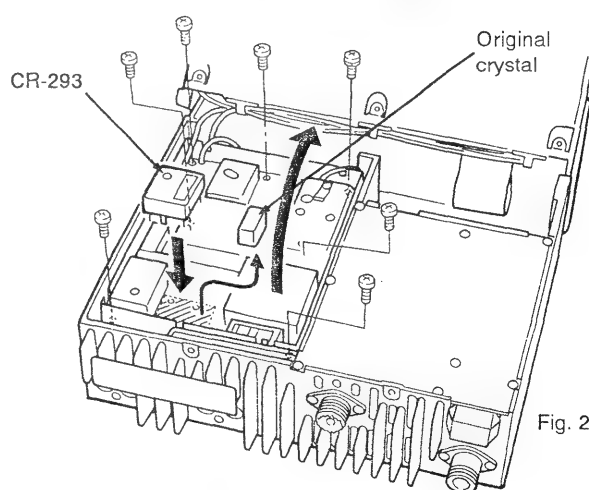
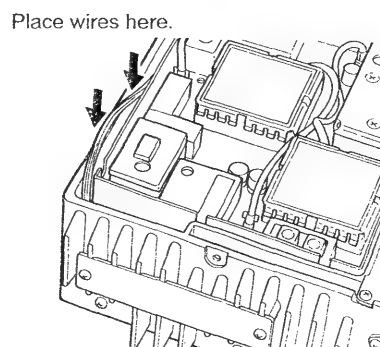

Fig. 2
Fig. 3
- ④ Remove 7 screws from the PLL unit, then lift up the PLL unit to expose the bottom side of the unit. (Fig 2)
- ⑤ Unsolder the 3 points of the built-in crystal's lead on the bottom of the PLL unit and the 1 point on the top of the PLL unit.
- ⑥ Replace the built-in crystal with the CR-293 and solder the leads of the CR-293.
- ⑦ Replace the PLL unit and the 7 screws.
- ⑧ Fit the wires from the rear of the front panel in the open space between the chassis and PLL unit. (Fig 3)
- ⑨ Replace the PLL unit cover, MAIN unit chassis, and top/bottom covers.